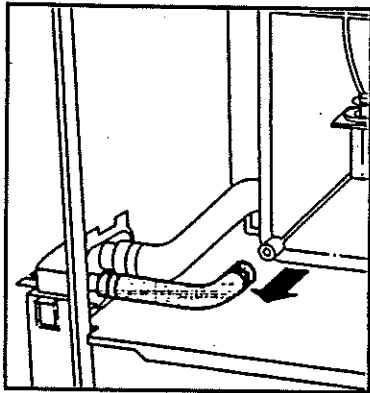

Fig. 41 - Inducer Housing Drain Tube
- Disconnect condensate drain tube from inducer housing (medium diameter tube on condensate drain trap). (See Fig. 41)